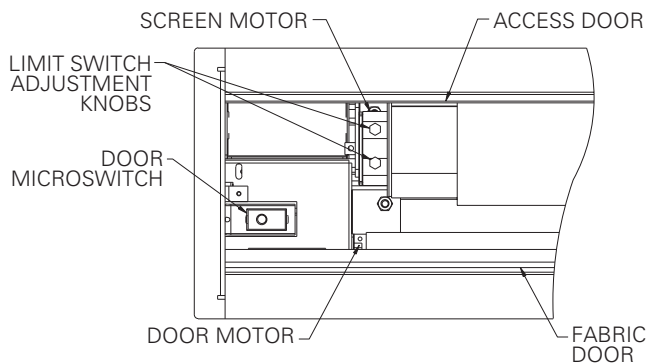

FIGURE 2
6. Carefully remove tape strips securing picture surface around roller. Slat should move freely (Fig. 2). (Only if the roller assembly is preinstalled.)
2. When the screen stops, turn the white "down" limit knob (Fig. 2) one-quarter turn counterclockwise. Test by raising picture surface approximately two feet, then lower again. Repeat until desired picture surface position is attained.
3. Turn the white "down" limit switch (Fig. 2) one-quarter turn clockwise. Test by raising picture surface approximately two feet, then lower again. Repeat until desired picture surface position is attained.